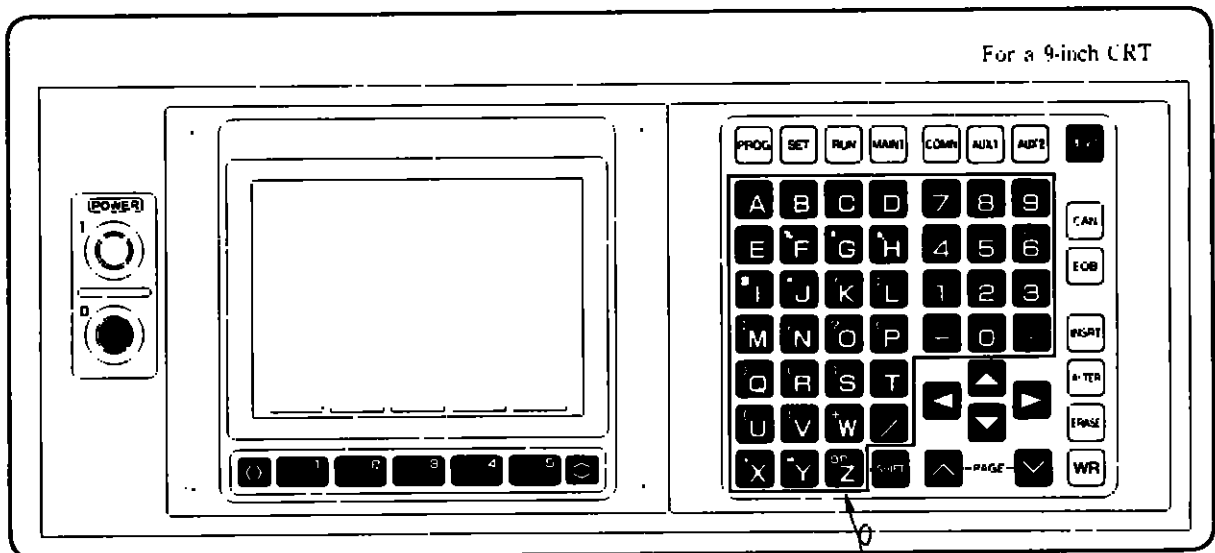

Fig. 2.2.6 Characters Entered Between Control-out and Control-in (Keys Enclosed by Line)
1. Characters can be entered between control-out and control-in by using the keys that are enclosed by line in Fig. 2.2.6.
2. Control-out and control-in cannot be entered in a section already enclosed by control-out and control-in. Only the characters in the frame in Fig. 2.2.6 can be entered in a section enclosed by control-in.